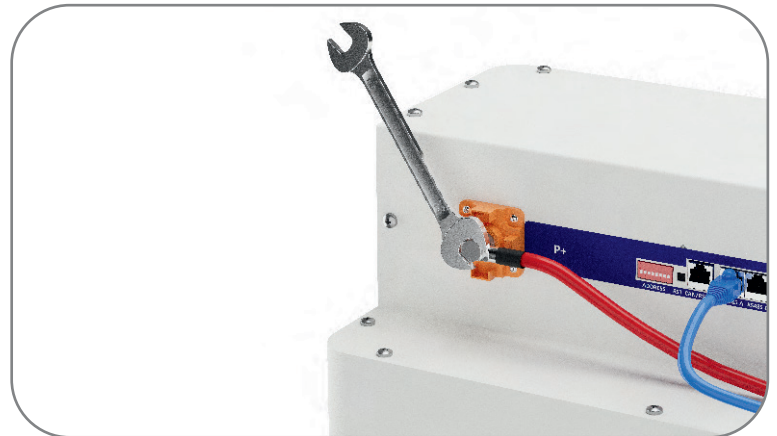

Figure 7.9
**STEP 9:** Connect the power cables between the LBPs using a wrench, as shown in Figure 7.9.